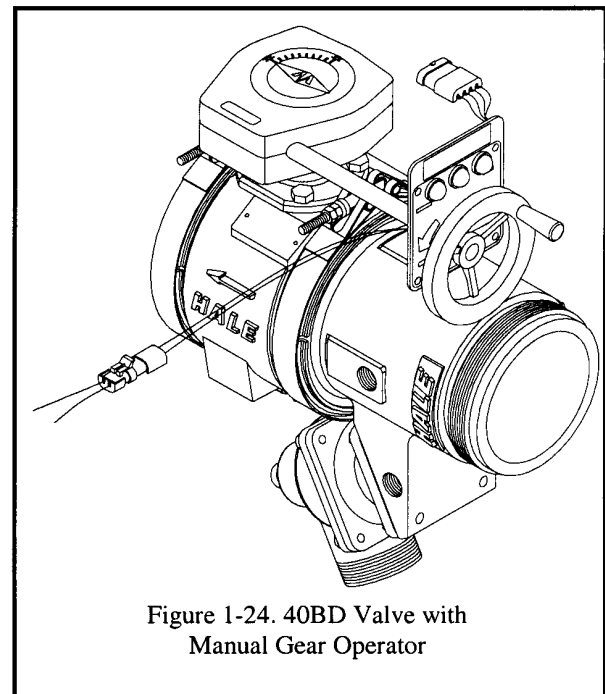

Figure 1-24. 40BD Valve with Manual Gear Operator
- ❑ Manual gear operator (see figure 1-24).